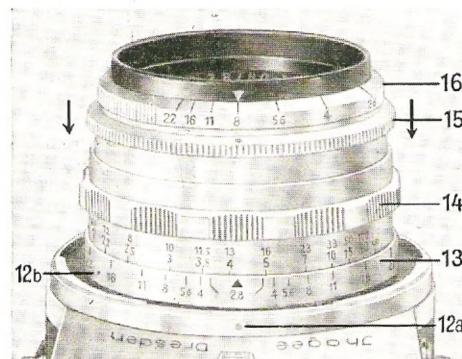

Fig. 5
The lens (17) is interchangeable: Push the knob (18) in the direction of the camera back, turn the lens to the left (looking at the camera front) until the red dots 12a and 12b (Fig. 5) stand against each other. Lift the lens off the camera front. – When installing the lens, first place it on the camera so as to make the red dots meet and then turn it to the right until it clicks in.
Lenses with diaphragm presetting device have an adjustable stop ring for the diaphragm ring. On most lenses, the pre-setting ring (15) behind the diaphragm scale has to be pushed back towards the camera (Fig. 5), whereupon the diaphragm ring (16) must be rotated until the aperture (= diaphragm number) with which the exposure is to be made, stands against the red marking dot. Now let the presetting ring (15) spring back into its original position. Focusing can be performed with the lens at full aperture and, immediately before releasing the shutter, without changing the position of the camera, the diaphragm ring (16) is turned back to the "pre-set stop". – With other lenses, there may be slight deviations concerning the employment of the "diaphragm presetting device".